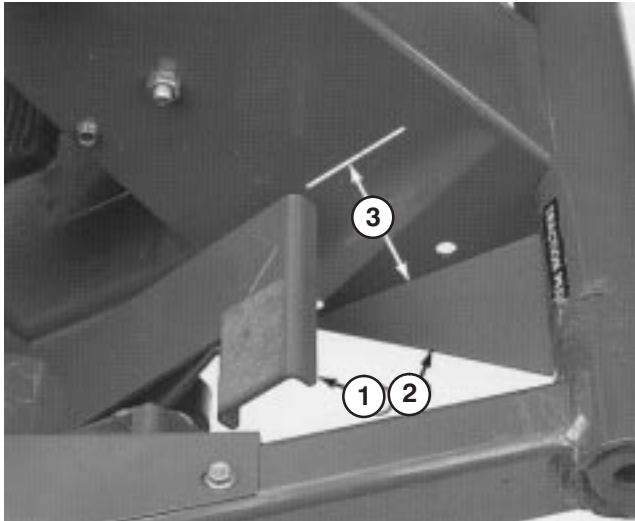
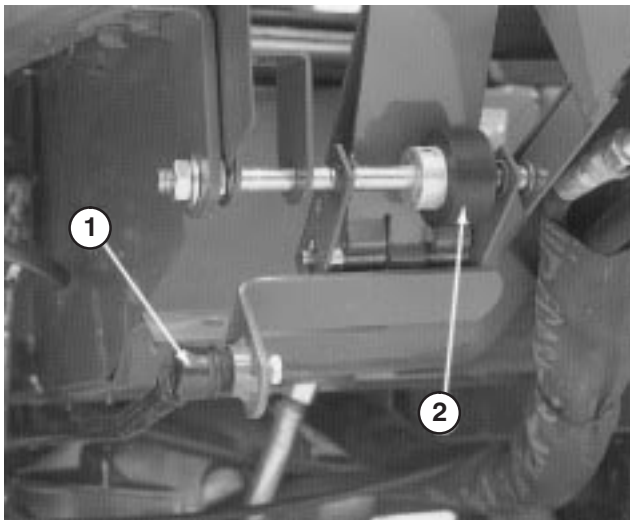

Figure 49
Figure 50
2. Press down on front of traction pedal and check travel. There should be approximately 3.50" clearance between end of pedal and floor plate when pedal is fully depressed (Fig. 49). Adjust pump control rod (Fig. 50) to attain dimension.
1. Loosen nut securing traction pedal shaft on right side of pedal (Fig. 50).